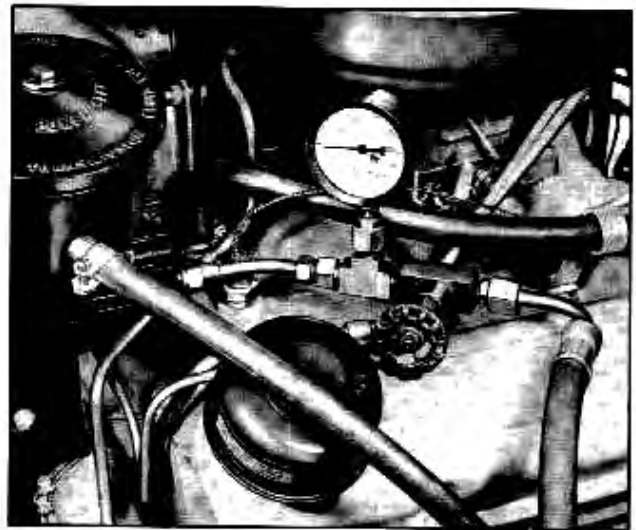

Fig. 9-82 Pressure Gauge Installed Between Pump and Gear
1. Install pressure gauge J-5176 (Fig. 9-82) in pressure line between pump and gear and turn valve to open position.